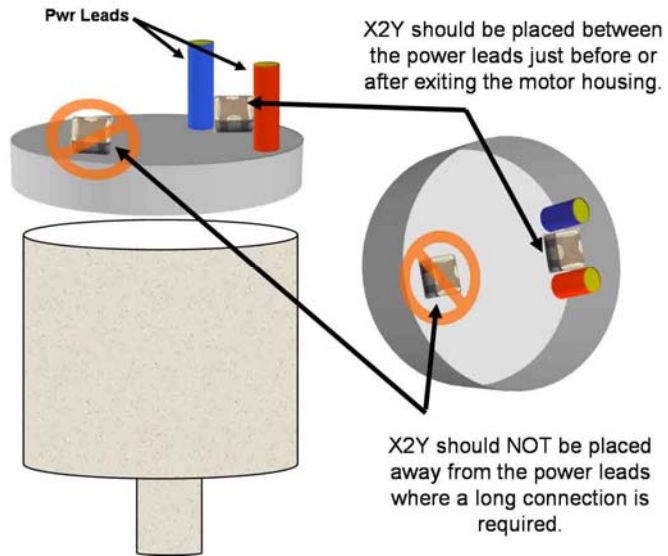

Figure 19. X2Y® should be located just before or after the exit point of the motor housing.
- v. The brush card or PCB should be located at the inside or just outside of the housing/end cap where the power leads exit. This placement ensures that the X2Y® component will be the last place the noise will pass before or just after leaving the motor housing (Figure 19).